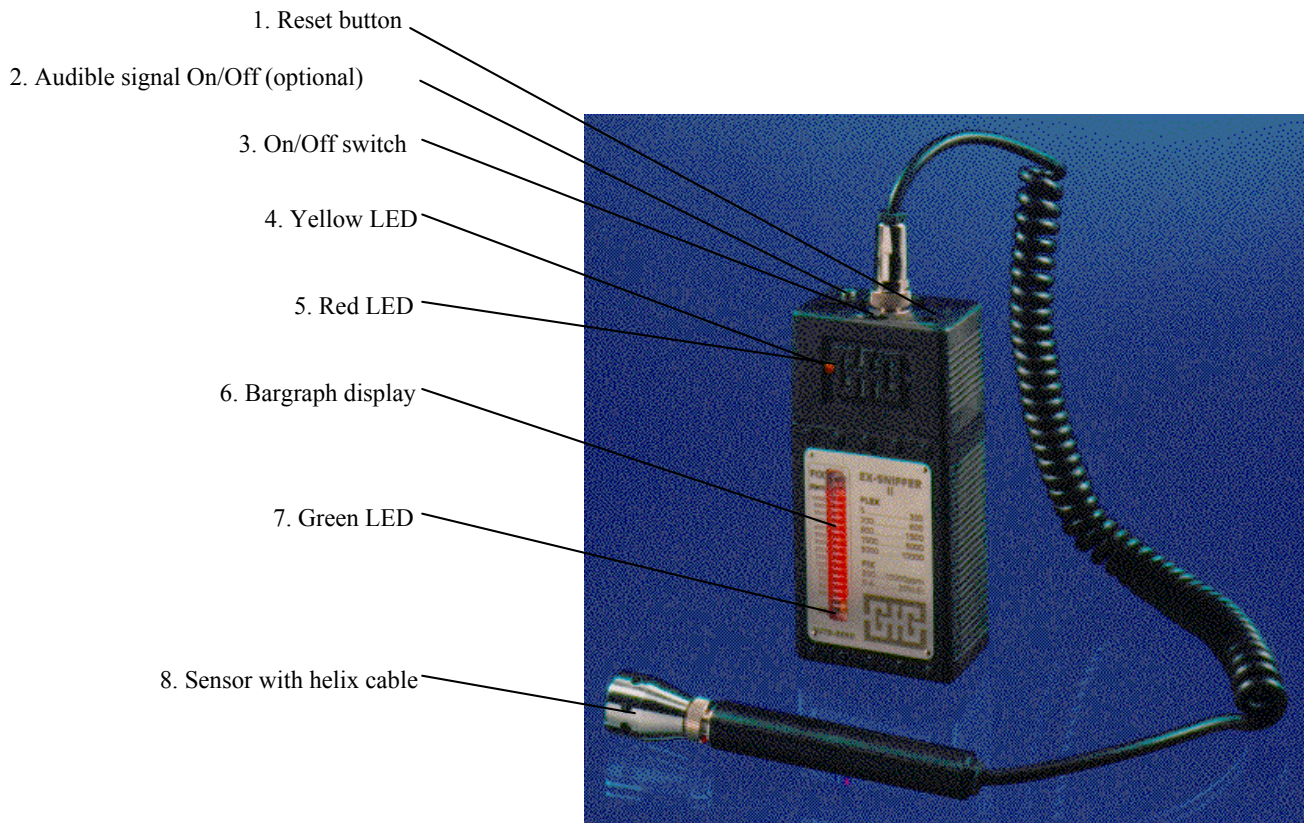

Fig. 1
Turn the G 300 TOX on by means of the On/Off switch (fig. 1, pos. 3) and allow a warm-up time of about 2 seconds before the instrument is ready for operation. In case the G 300 TOX had not been switched on for an extended period (several weeks), it may need a warm-up time of up to 60 seconds.
1. Bring the On/Off switch (fig. 1, pos. 3) in position "ON".
The red LEDs in the bargraph display (fig. 1, pos. 6) light up and go out during the warm-up period. If the unit has only been switched off shortly, it may not need any or only a very short warm-up time and the red LEDs will not light.
2. Push the reset button (fig. 1, pos. 1).
If the reset button is pushed in the presence of gas or before the warm-up, the yellow LED (fig. 1, pos. 4) might go on after a short while. Push the button again until the warm-up period is over or until there is no gas left in the ambient air.
- all red LEDs in the bargraph display (fig. 1, pos. 6) are out (with zero gas),
- the red LED (fig. 1, pos. 5) blinks and a slow rhythmic signal sounds.
Rising or falling gas concentrations are indicated acoustically by faster or slower rhythmic signals. The red LED (fig. 1, pos. 5) blinks with the same frequency. The audible signals allows leak detection without keeping an eye on the display. The visual indication supports the audible signal in noisy environments.
To cover the wide detection range of the G 300 TOX from a few ppm up to 1000 ppm for leak detection, pushing the reset button (fig. 1, pos. 1) gives the signal of a new starting point:
The audible signal can be switched on or off by means of the little switch (fig. 1, pos. 2). This does not change the detecting functions of the G 300 TOX. Changing gas concentrations during leak detection are still indicated by the red LED (fig. 1, pos. 5).